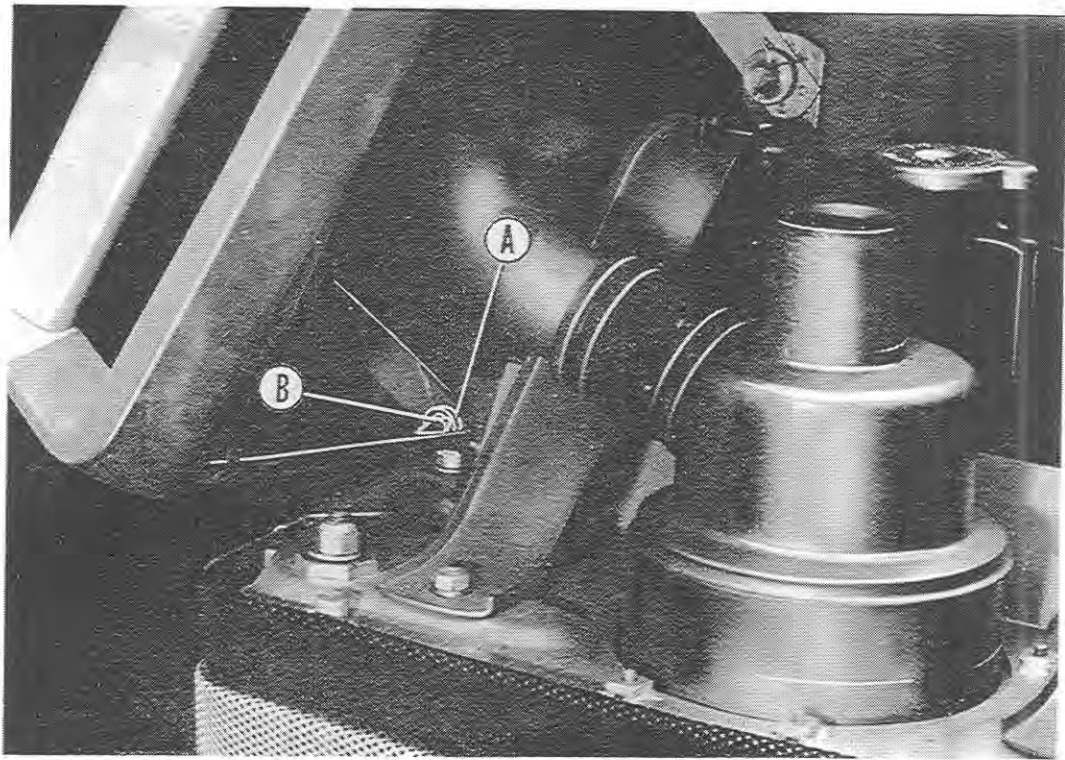

Fig. 1
- 2) Remove the circlip at the front end of the hinge rod (Fig. 1 - B).
- 3) Remove the spacer (Fig. 1 - A).